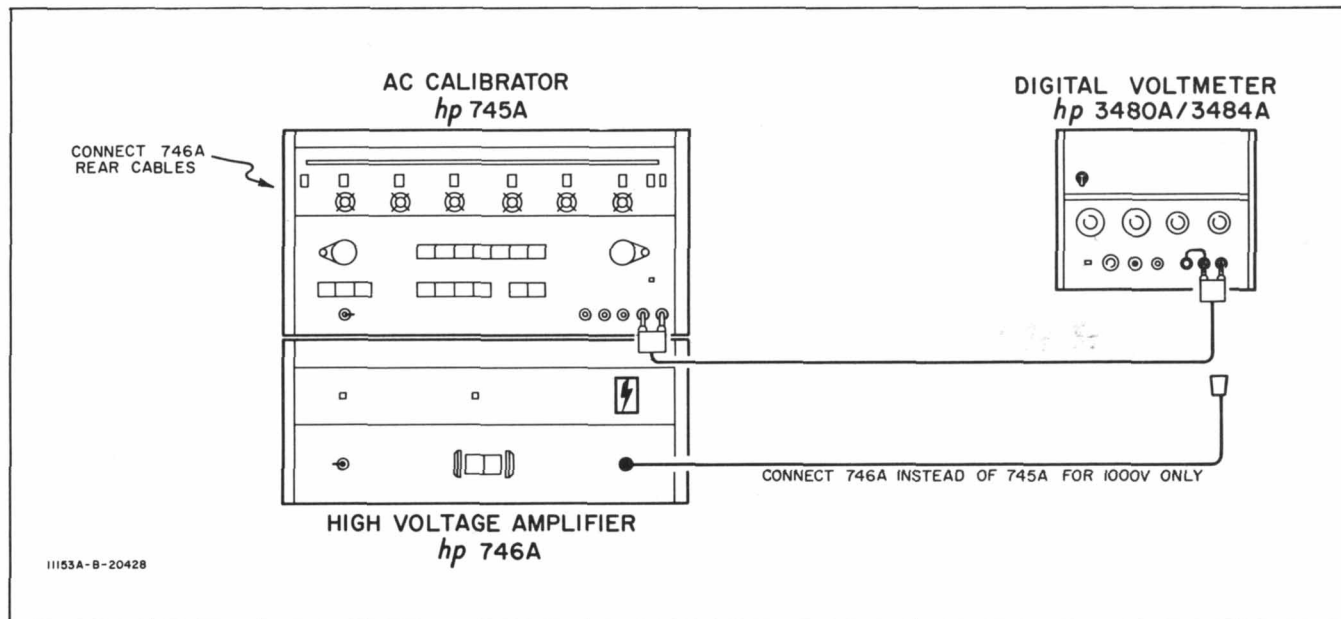

Figure 5-2. Mid Band and Low Frequency Adjustments.
- a. Connect 3480A/B/3484A and ac calibrator as shown in Figure 5-2. Connect 3484A GUARD to LOW. Allow calibrator to warm up for 1 hour.